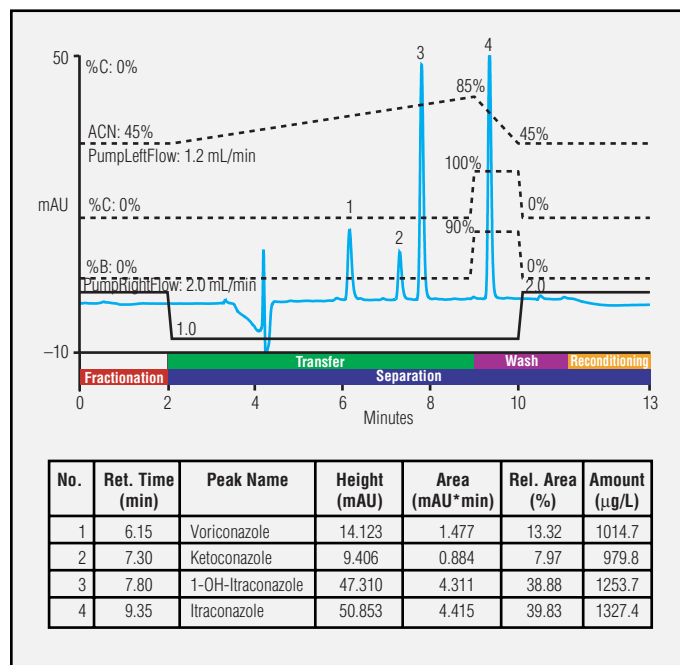

Figure 7. On-line SPE-LC-UV of antimycotics standards in human plasma.
- Transfer and separation gradient: as displayed in Figure 7
Figure 7 shows the chromatogram of a human plasma sample spiked with the four antimycotics investigated. All analytes are baseline resolved within 13 min. PumpLeft and PumpRight are the names of the two pumps incorporated in the UltiMate 3000 Dual-Gradient pump. In this case PumpLeft is used as the analytical gradient pump. PumpRight serves for sample fractionation, analyte transfer, and reconditioning of the RAM SPE column.